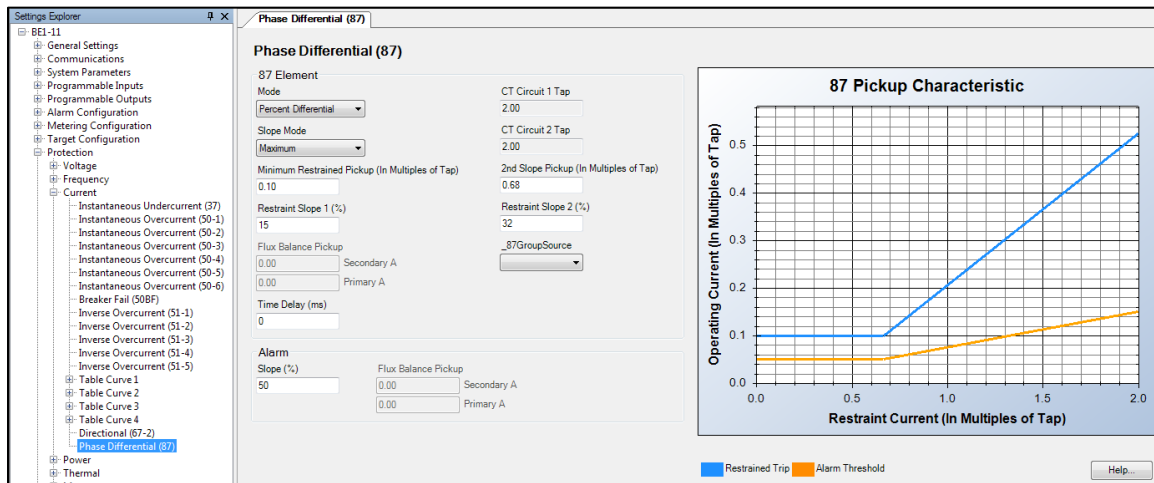

Figure 84-22. Protection, Current, Current Differential (87) Screen
The Current Differential (87) screen is shown in Figure 84-22.